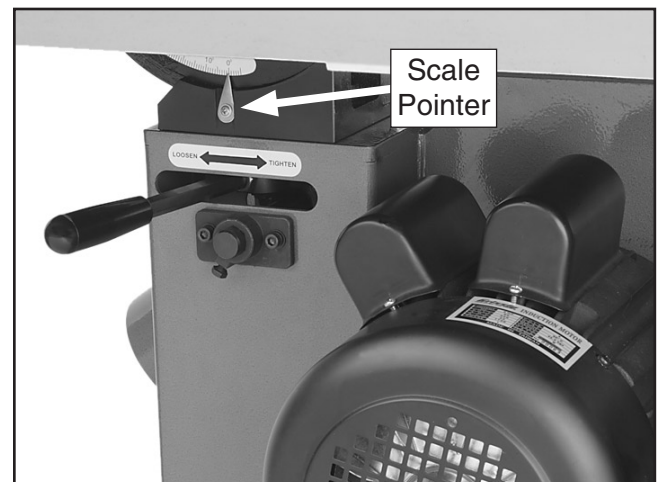

Figure 17. Table tilt scale pointer.
- Loosen the screw on the table tilt scale pointer, but do not remove it (see **Figure 17**).